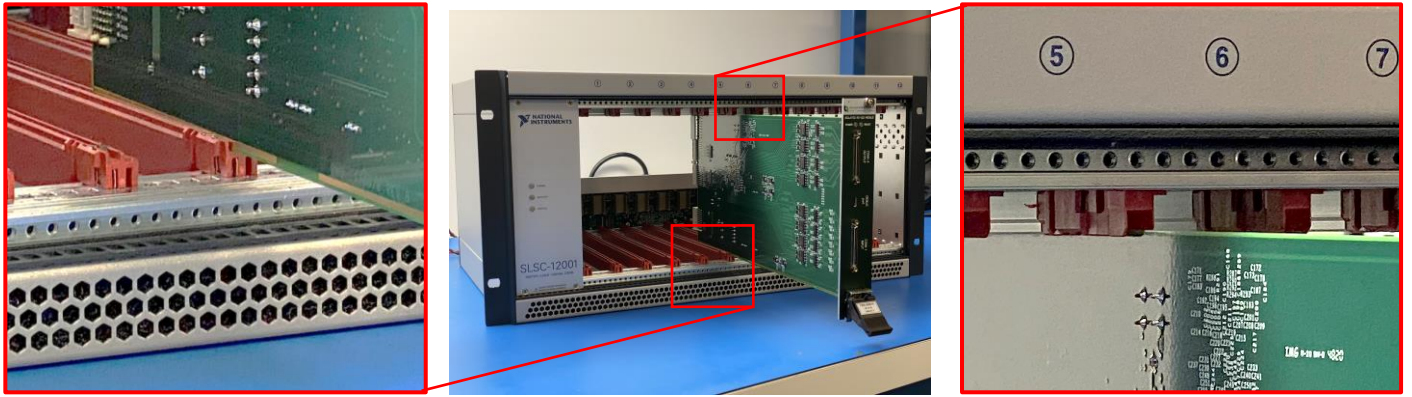

Figure 7. Insertion of Module in Chassis
- 5) Slide in the module inside the red SLSC chassis slots located on the top and bottom as shown in Figure 7.